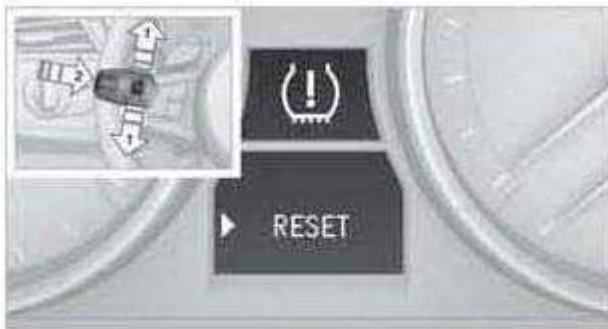

Fig. 25: Tire Pressure Monitor Status Display
2. Lightly push button 1 on the turn indicator. See **Fig. 25**.
3. Lever the turn indicator up or down repeatedly until the tire monitor symbol appears in the display, accompanied by the word "RESET". See **Fig. 25**.
4. Press button 2 to confirm your choice of the Tire Pressure Monitor. In the display, "ACTIVE" will appear above "RESET". See **Fig. 25**.
5. Press button 2 for approx. 5 seconds. In the display, "RESETTING" will now appear above "RESET". See **Fig. 25**.